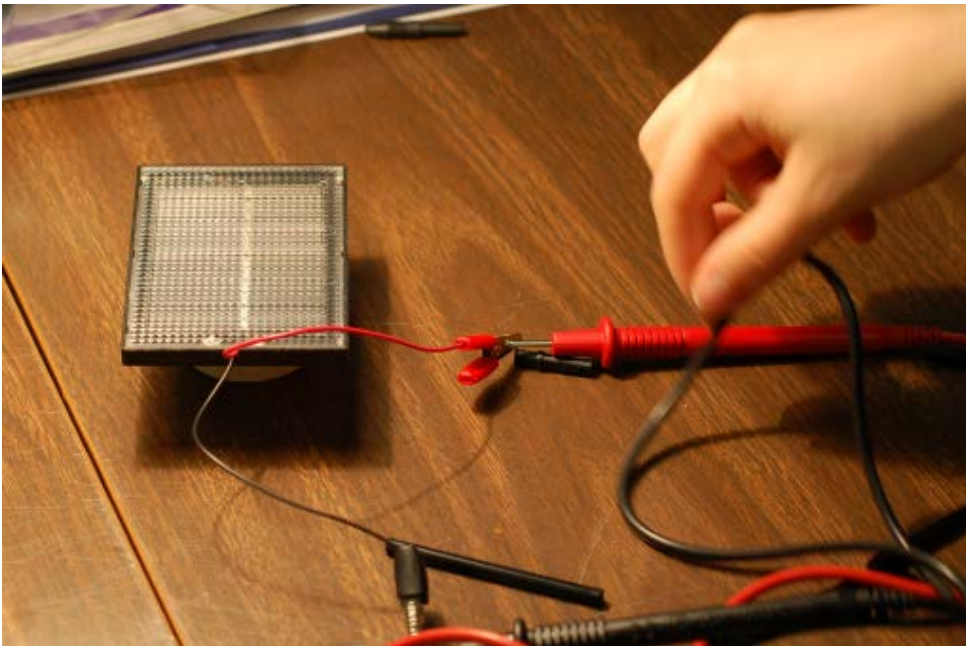

Figure 7. Testing voltage and current of solar cell
Step 5: Students are now ready to work in groups to investigate three different types of solar cells. See Figure 7. While each one produces a different voltage, they each produce the same amount of energy. How can this be? Have students measure the voltage and current, calculate the energy produced each second, and then examine the solar cells carefully to make an inference about how they can each produce the same amount of energy. Pass out the Solar Cells Investigation worksheet.